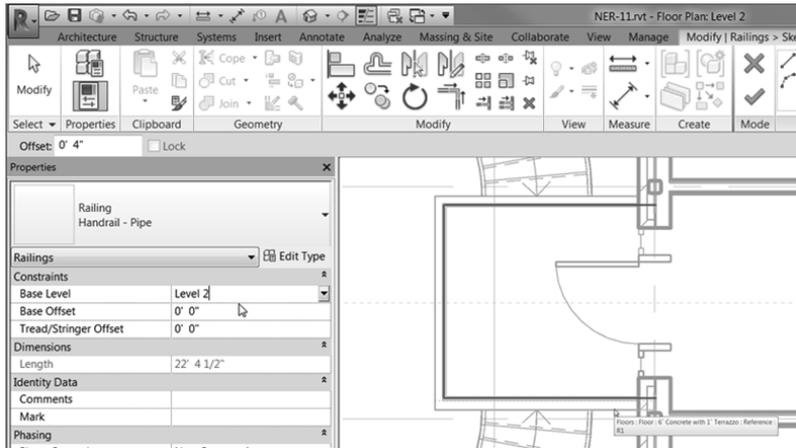

FIGURE 10.50: The railing on the landing
5. Pick the landing lines to offset in the railing (see Figure 10.50).